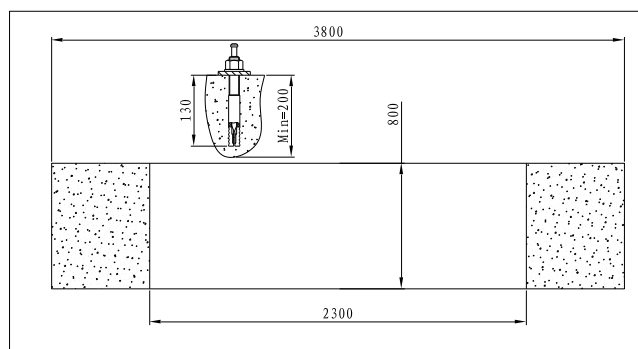

Fig. 29
- ◆ Put up the main column (*Notice that the carriage engages in the ratchet and keep in the same height*). Adjust the uprightness of the column and install the expansion bolt according to Fig. 29.
- ◆ Install the screw according to **Fig. 29**.